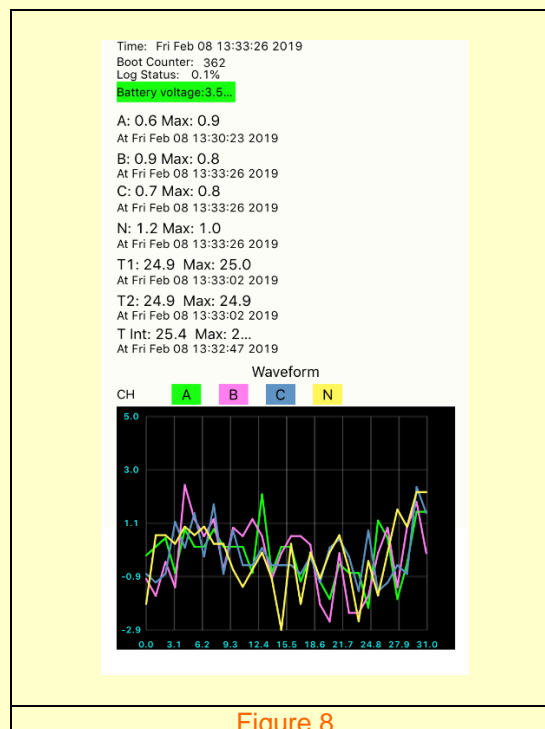

Figure 8
4. If connecting using the Citrus Lite mobile application, the user can click the 'connect' button within the app. Once connected, the user will see a display similar to the one in **Figure 8** below which shows instantaneous values, maximum values and a live plot, as well as other general information about the Mirrin.